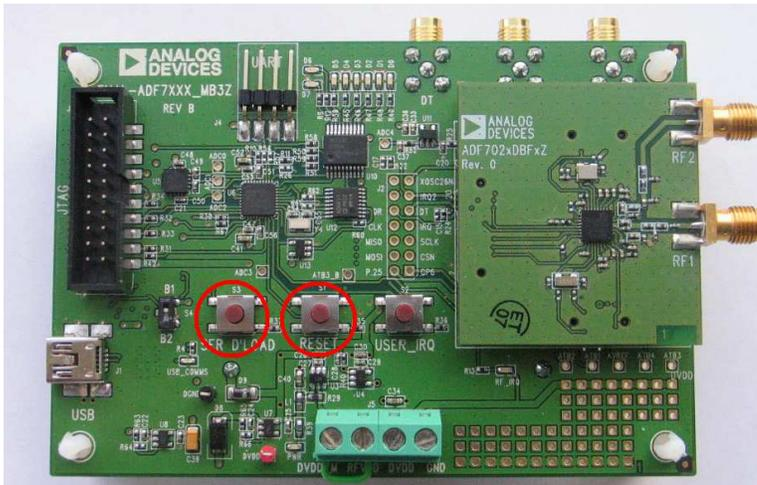

Figure 25
5. "***SER DLOAD***" and "***RESET***" buttons will be referenced and can be found as shown in Figure 25.